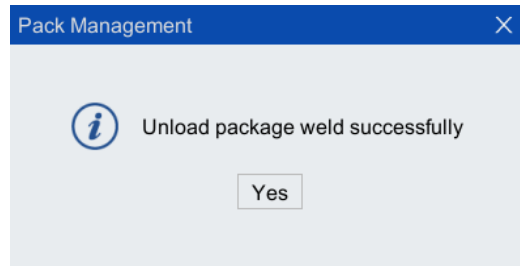

Fig. 3-10 "Uninstalled Successfully" dialog box
Step 4. Click the "Yes" button. After the uninstallation is completed, the dialog box shown in Fig. 3-10 will pop up. Click "Yes", and the uninstallation of the feature pack will be completed.